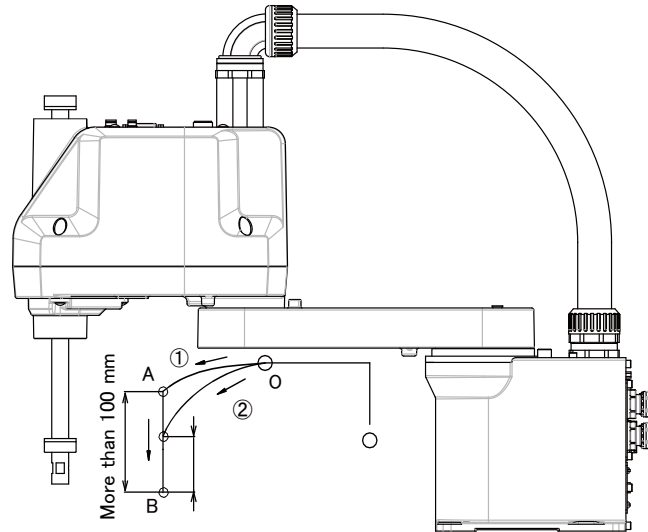

Fig.2-9 : Recommended path when positioning at the bottom edge of the Z axis
- 3) When positioning the work near the bottom edge of the Z axis, if no effectiveness is achieved in step "2" above, perform operation ① (robot path: O → A → C). In the case of operation ② (robot path: O → B → C), residual vibration may occur. (Refer to Fig. 2-9.)